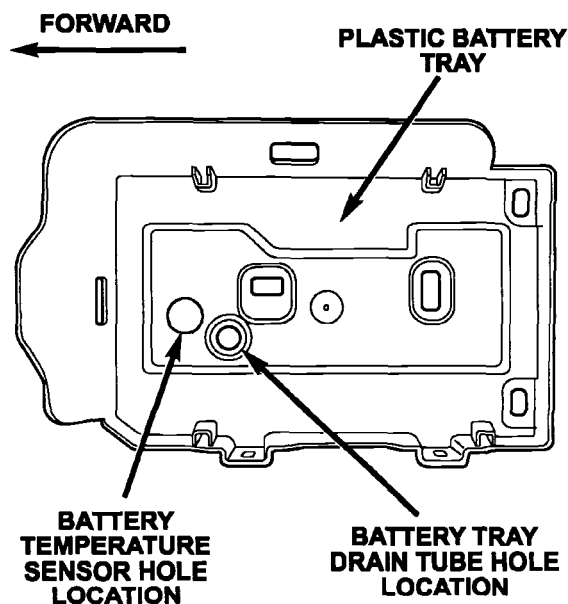

Figure 14
4. Transfer the battery temperature sensor from the old battery tray to the new battery tray (Figure 14). Then discard the old battery tray.
6. Snap the new drain tube into position on the new battery tray (Figure 14).